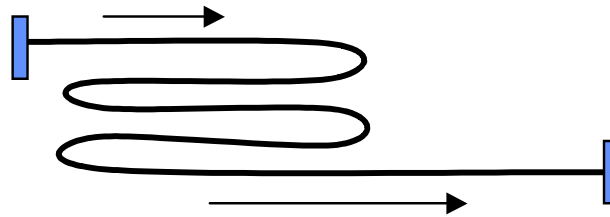

Figure 5-2: Folding a Cable
1. Fold the excess length as shown in Figure 5-2.